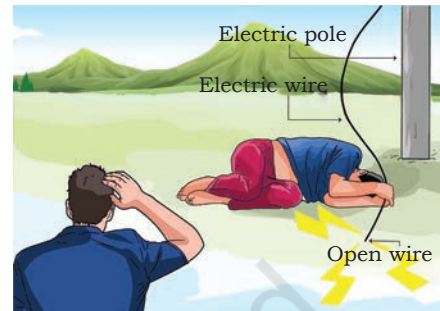

Fig. 11.27: Victim in contact with energised conductor
- Visually examine victims to determine if they are in contact with energised conductors, as shown in Fig. 11.27.